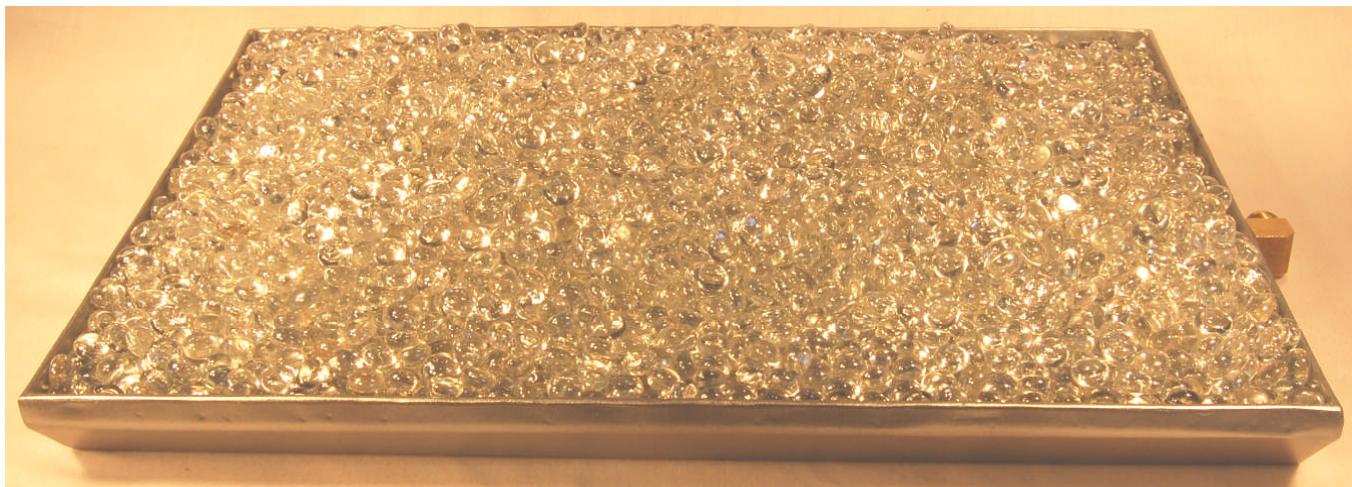

FIGURE 18
- 1- Pour the proper glass medium over the entire burner, filling the burner pan. The glass medium should follow the slope of the burner pan, covering the burner completely. (SEE FIGURE 18)